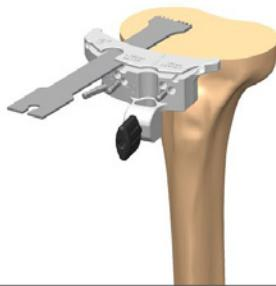

Figure 101
2. Remove the Tibia Stylus and assembly leaving the cutting block in place. Resect the proximal tibia (**Figure 101**).